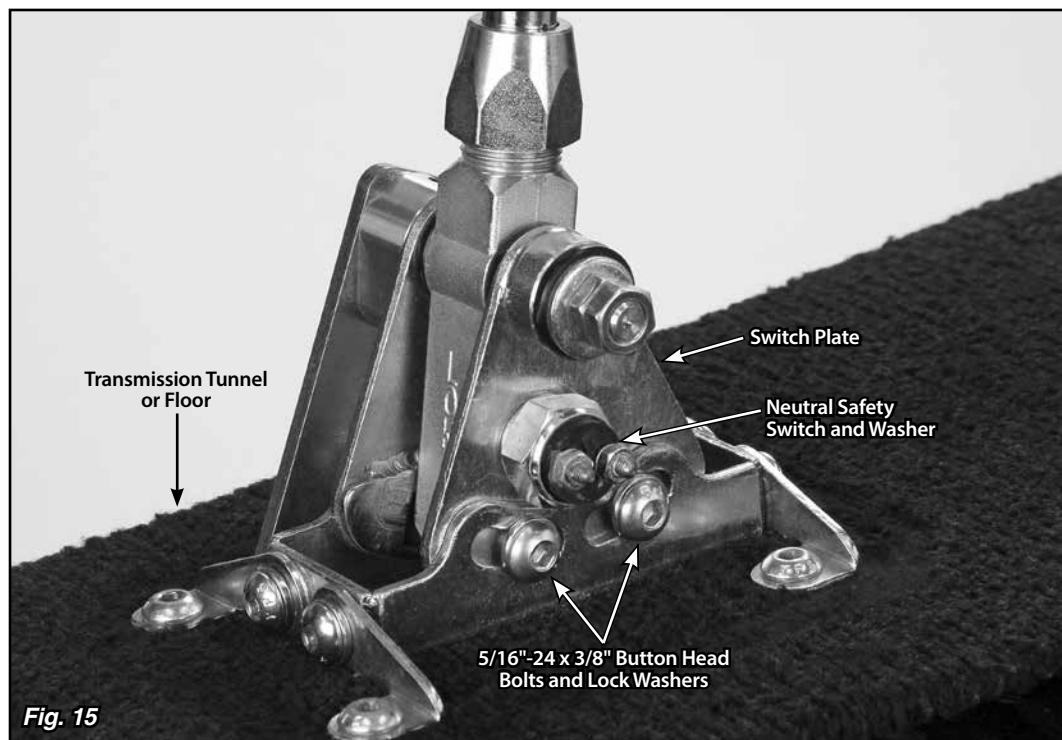

Fig. 15
Step 22: Remove the neutral safety switch and washer (**Fig. 15**) from the **passenger** side of the Shifter using a 7/8" wrench or socket.
Step 23: Loosen, but do not remove, the two 5/16"-24 x 3/8" button head bolts and lock washers that connect the passenger side of the floor mount mounting bracket to the switch plate (the bolts are in curved, slotted holes). **Fig. 15**